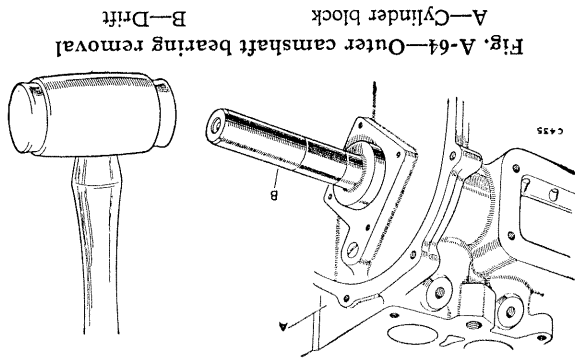

Fig. A-64—Outer camshaft bearing removal
2. Drift the front camshaft bearing into the foremost tappet chamber, then withdraw the bearing from the chamber aperture. Fig. A-64.